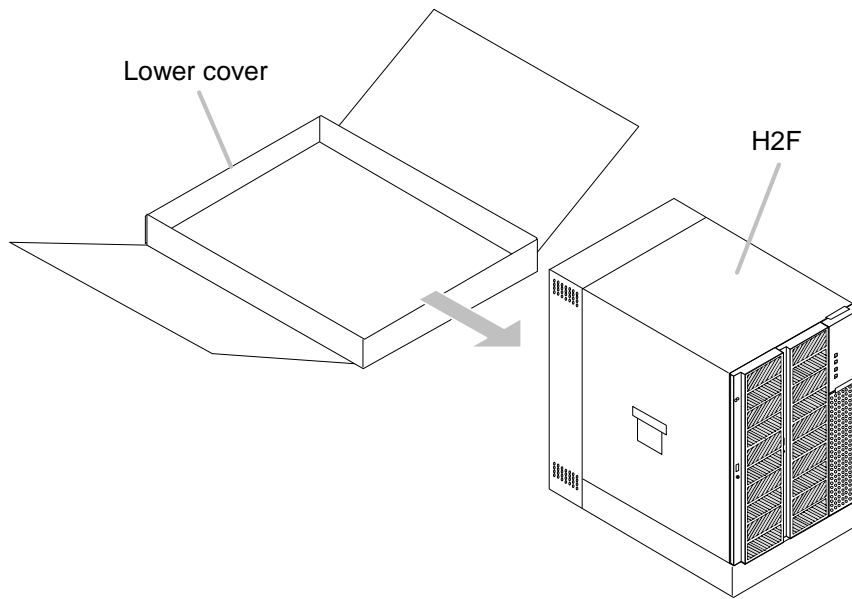

Figure 4.19 Packed Status of the H2F (2)
5. Remove the polyethylene bag covering DF500 unit, and then bring the unit down from the bottom of the shipping carton. (see figure 4.19)